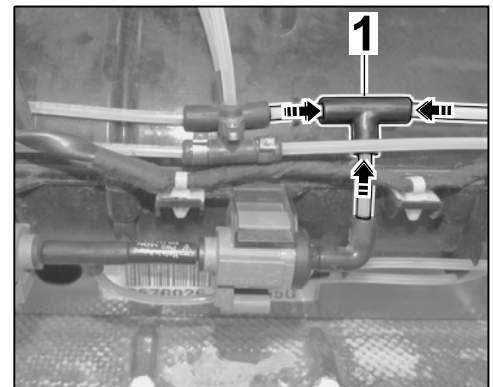

Figure 56
10.3.6 Insert the ends ⇒ *Figure 56 -arrows-* of the vacuum line you have just cut at least 10 mm into the T-piece ⇒ *Figure 56-1-*.